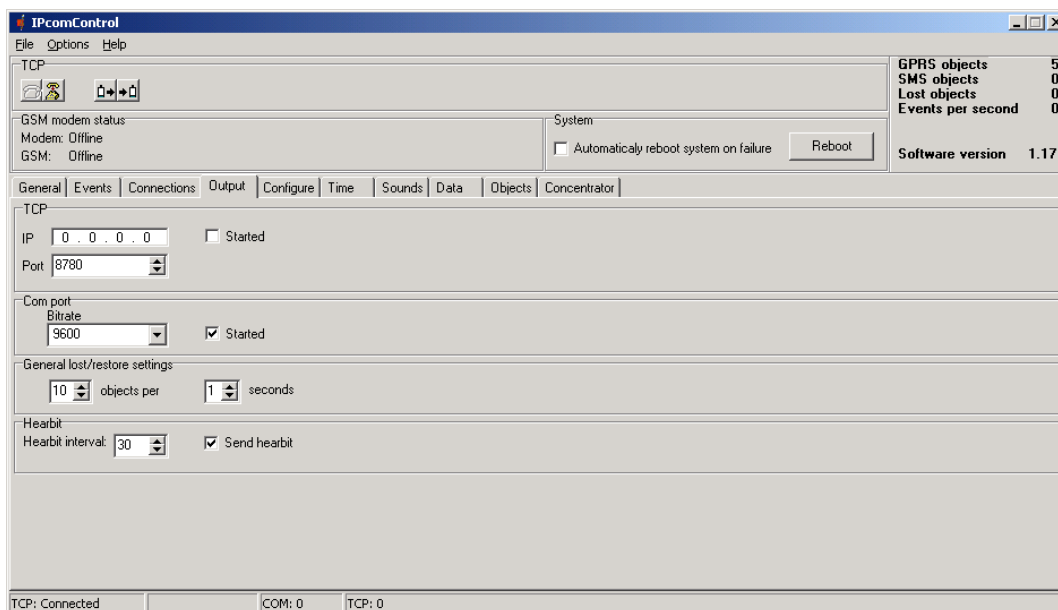

Figure 14.
8.12 In the **Output** tab (Fig. 14) parameters for sending signals from *IPcom* program to monitoring software can be set.